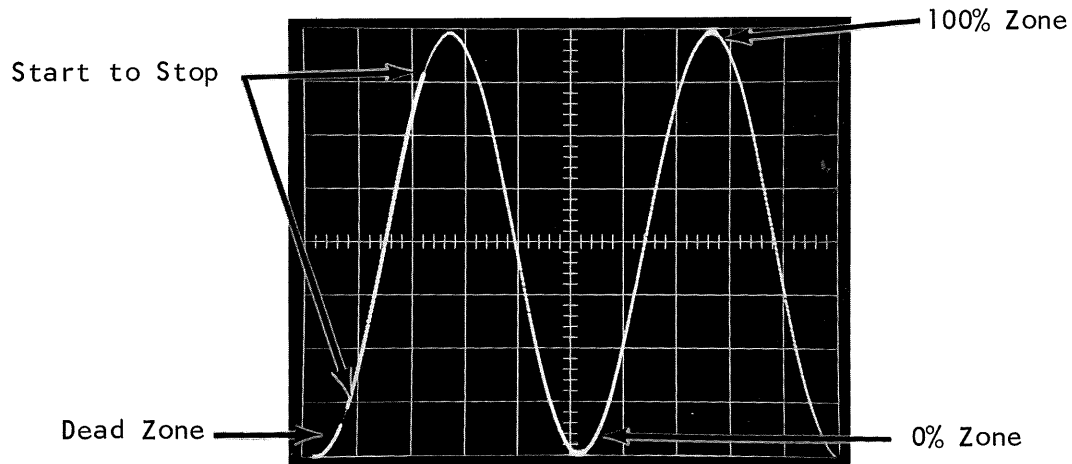

Figure 7-3
4. Adjust the DELAY control so the dead zone is at the bottom of the display. Position the 0% zone to the bottom of the display and the 100% zone to the top of the display. Adjust the appropriate Zone Width adjustments so the zones are quite narrow. See Figure 7-3.